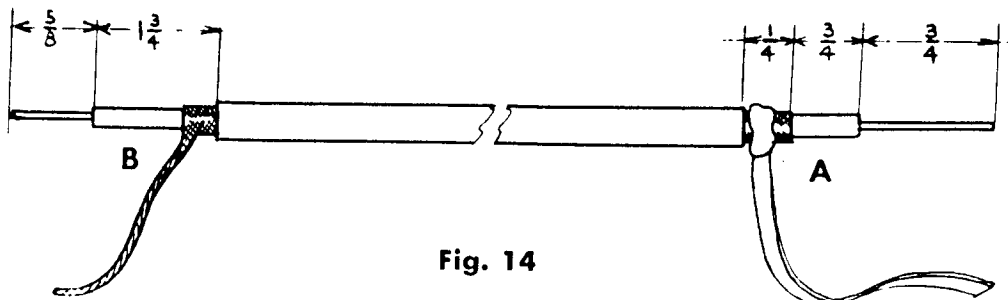

Fig. 14
1. ( ) Fig. 14, end A. Strip one end of the 4 ft. length of black shielded test lead as follows: Remove  $1\frac{3}{4}$ " of the black outside insulation. From the same end, remove  $1\frac{1}{2}$ " of braid. Next, expose  $\frac{3}{4}$ " of inner conductor.
3. ( ) Fig. 14, end B. Strip the opposite end of the shielded test lead as follows: Remove  $2\frac{3}{8}$ " of black outside insulation. From the same end, remove  $2\frac{1}{8}$ " of braid. Next, expose  $\frac{5}{8}$ " of inner conductor.